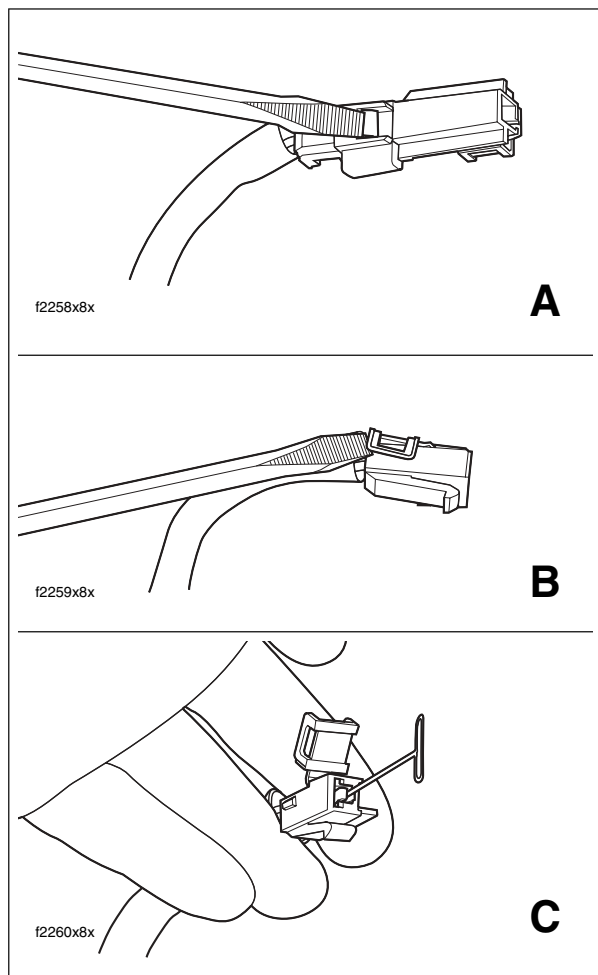

Figure B-24. Remove Socket Terminal
6. Using small flat blade screwdriver, depress button on pin housing (red wire) side of the connector and pull apart the pin and socket halves. See A of Figure B-24.
7. Bend back the latch slightly and free one side of secondary lock, then repeat the step to release the other side. Rotate the secondary lock outward on hinge to access terminal in chamber of connector housing. See B of Figure B-24.
8. On the mating end of the connector, note the tang in the square shaped opening centered next to the terminal. Gently insert the point of a stick pin or large safety pin into the opening between the tang and the chamber wall until it stops. Pivot the end of the pin toward the terminal body to depress the tang. Remove the pin and then pull terminal out wire end of connector housing. See C of Figure B-24.